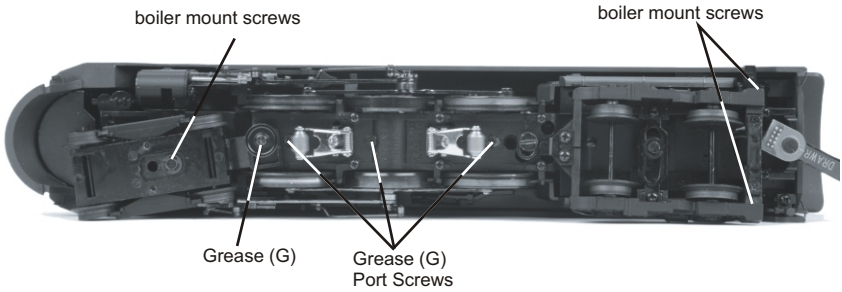

Figure 8: Boiler Mounting Screws and Lubricating grease points
2. Remove the Phillips screws (marked “GREASE”) located at each set of wheels and under pick up rollers (Fig. 8).
You should also grease the leading and trailing locomotive truck tongues to enhance their ability to slide on the chassis. Follow the grease points shown on Fig. 8.
1. Remove the 3 boiler mount screws shown in Fig 8 on Page 13.
If you experience poor or no smoke output when the smoke unit is on and has fluid, check the wick to see if it has become hard, blackened, and unabsorbent around the heating element. To remove the smoke unit you will first have to remove the boiler shell (by removing the body mounting screws shown in Fig. 8 on pg 13), board and bracket that block the smoke unit assembly from being accessed.
1. Remove 3 boiler mount screws shown in Fig 8 on Page 13.